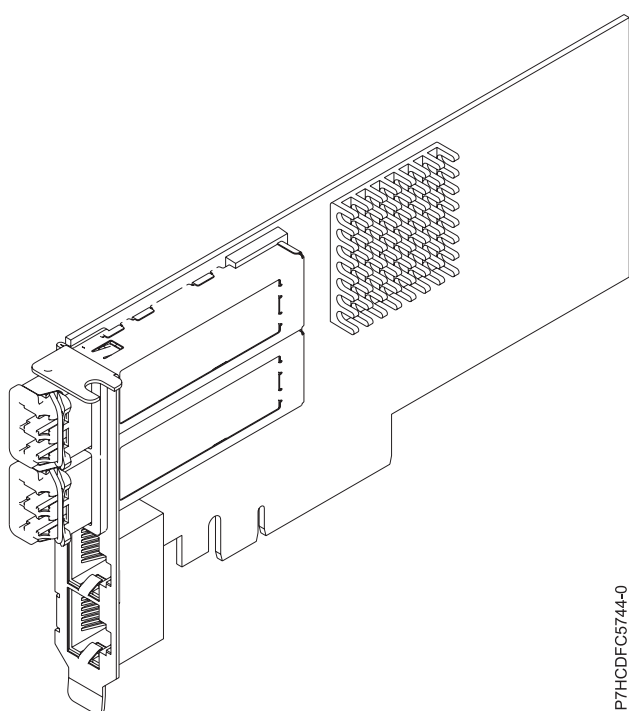

Figure 30. PCIe2 2x10GbE SR 2x1GbE UTP Adapter
The PCIe2 2x10GbE SR 2x1GbE UTP adapter is a PCI Express generation-2, four-port Ethernet unified wire adapter with a PCI Express 2.0 host bus interface. The adapter is optimized for cloud computing, virtualization, storage, and other data center applications. The four port adapter provides two 10 Gb Ethernet ports and two 1 Gb Ethernet ports. The two 10 Gb small form-factor pluggable (SFP+) single root (SR) transceiver ports are used for connectivity with other servers or switches in the network. Each SFP+ (SR) port provides Ethernet connectivity with a nominal data rate of 10 Gbps (gigabits per second), and uses the SFP+ copper twinaxial cables up to 5 m (16.4 ft) in length. Each of the RJ45 ports provides Ethernet connectivity at a data rate of 1 Gbps. The link aggregation and failover features of the adapter are ideal for critical network applications that require redundancy and high availability. Figure 30 shows the FC 5745 adapter.